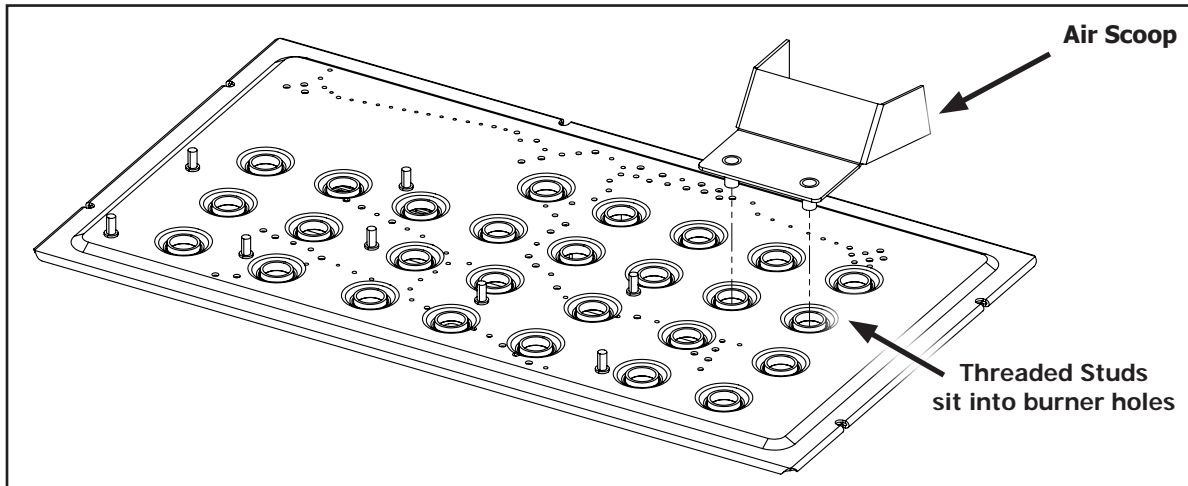

Figure 44. Air Scoop Installation
**Note:** Ensure the metal air scoop is installed on the burner pan before proceeding with the log setup. See Figure 44 below.